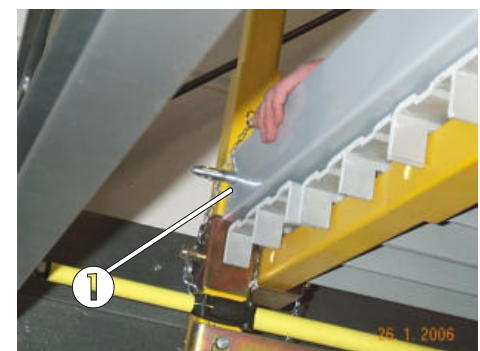

Fig. 98: Securing the toeboard
When the handrails have been mounted, you can begin to mount the midrails and toeboards with the U profiles of the vertical rail stanchions, which are provided for that purpose. Like the guard rail on the lower platform, the rails on the upper level are secured using short locking pins (fig. 98/pos. 1).